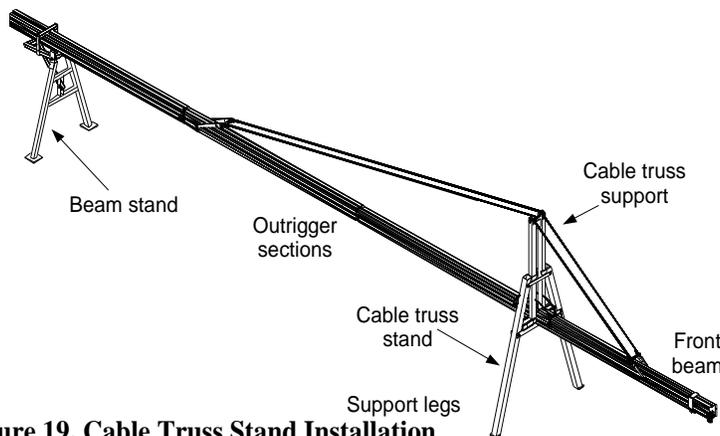

Figure 19. Cable Truss Stand Installation
The Cable Truss Stand (see Figure 19) is designed to support the base of the 8 ft. Reach Cable Truss. Note that the standard Beam Stand (WS BS 001) must not be used to support the Cable Truss System. The Beam Stand is used to support the rear of the Cable Truss System. The Cable Truss Stand must be installed prior to the installation of the Cable Truss System. The installation procedure for the Cable Truss System with the Cable Truss Stand is as follows:
1. Place the base of the Cable Truss Support onto the shelf in the Cable Truss Stand and rotate the upper brace into position and pin it closed (see Figure 19, Figure 20).